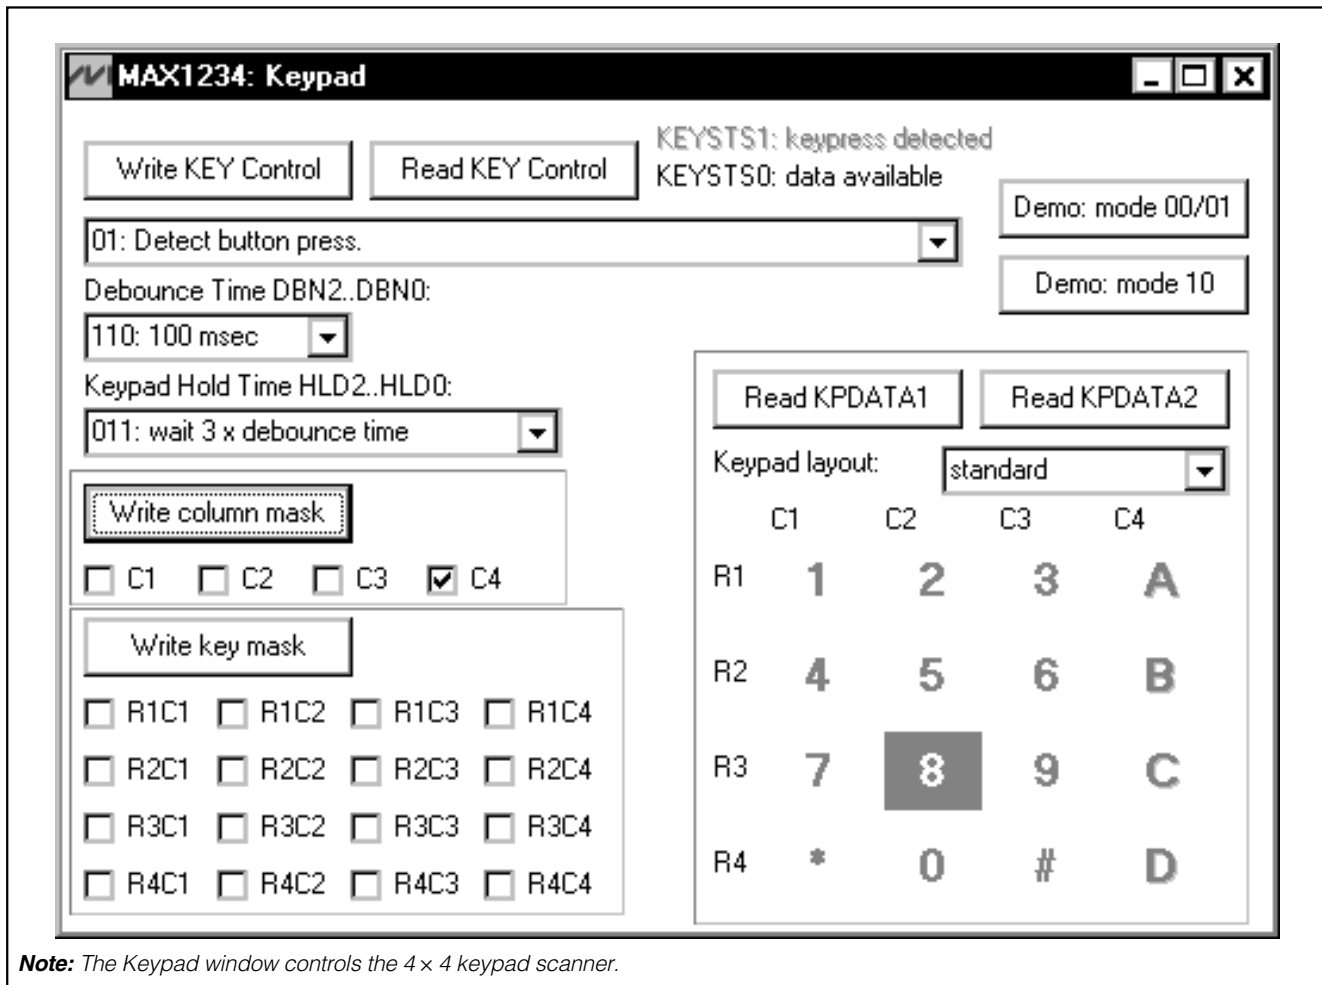

Figure 5. Keypad Window
- 11) Click **Demo Keypad**. The software tracks key presses (see Figure 5).
The Keypad window controls the 4 × 4 keypad scanner. Use the drop-down combo boxes to set up the keypad control register, then click **Write KEY Control**. Refer to the MAX1234 data sheet for suggested usage details (see Figure 5).